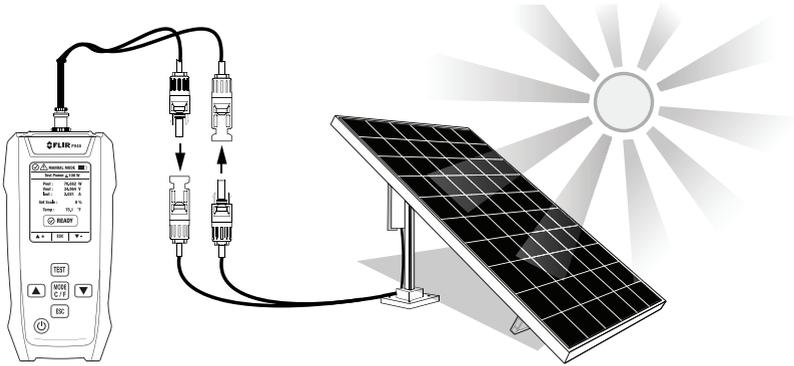

Figure 5.8 Connecting to solar panels and testing in manual mode.
1. Connect the test probes to the tracer and then to the positive and negative terminals on the solar panel as described in Section 4.5 and shown in Figure 5.8. Do not connect the solar panel to other controllers or tracers while testing.